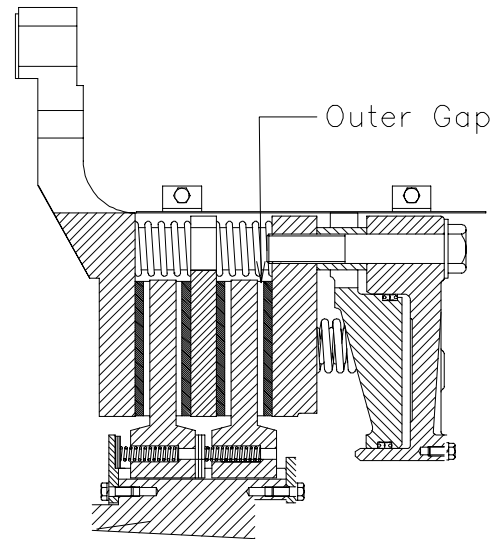

Figure 7
- 2.4.4 Using a prying tool, adjust the position of the outer disc (58) to ensure that it is resting against the end plate (87) on the gear. Note: It may be necessary to add an equal number of shims (90) at each of the brake mounting points to create a gap between the outer disc and the outer friction disc. See Figure 7.
- 2.4.5 Measure the gap between the outer disc and friction disc which is mounted on the pressure plate. See Figure 7. The shaft should be thrust out (towards the brake end) to its axial limit when determining this dimension.